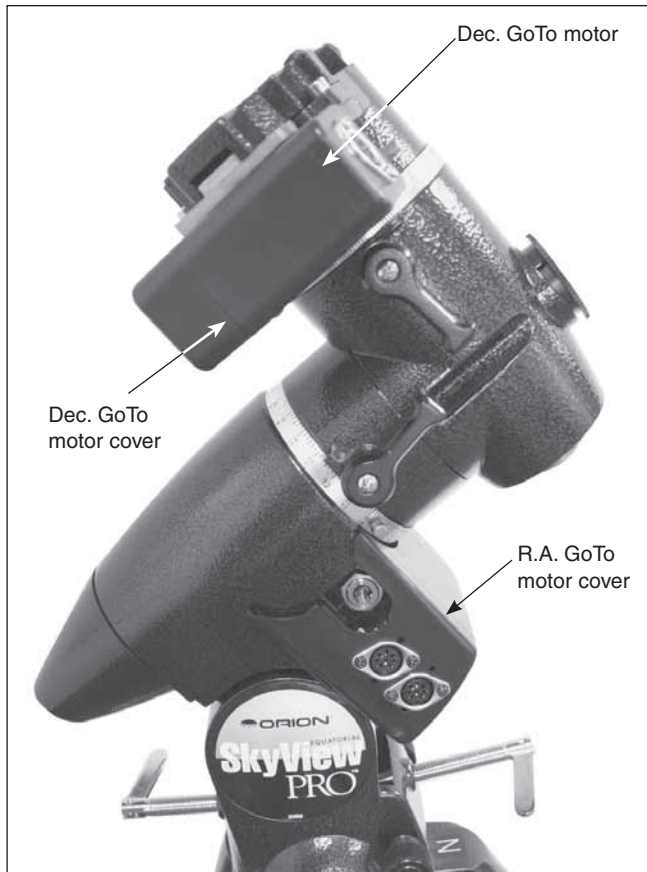

Figure 12. Installed GoTo motors
5. Once the Dec. GoTo motor and gear have been installed and the gears mesh appropriately, you can install and secure the Dec. GoTo motor cover with the two 8mm long Phillips screws. Once you have installed the Dec. GoTo motor and cover, your mount should resemble **Figure 12**.